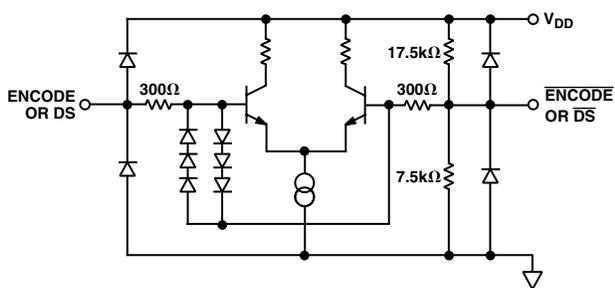

Figure 5. Equivalent ENCODE and Data Select Input Circuit
³t_v and t_{pD} are measured from the threshold crossing of the ENCODE input to valid TTL levels of the digital outputs. The output ac load during test is 5 pF (Refer to equivalent circuits Figures 5 and 6).
ENCODE and Data Select (DS) can be driven differentially or single-ended. For single-ended operation, the complement inputs (ENCODE, DS) are internally biased to $V_{DD}/3$ (~1.5 V) by a high impedance on-chip resistor divider (Figure 5), but they may be externally driven to establish an alternate threshold if desired. A 0.1 μ F decoupling capacitor to ground is sufficient to maintain a threshold appropriate for TTL or CMOS logic.
Note the 6-diode clock input protection circuitry in Figure 5. This limits the differential input voltage to $\sim \pm 2.1$ V. When the diodes turn on, current is limited by the 300 Ω series resistor. Exceeding 2.1 V across the differential inputs will have no impact on the performance of the converter, but be aware of the clock signal distortion that may be produced by the nonlinear impedance at the converter.